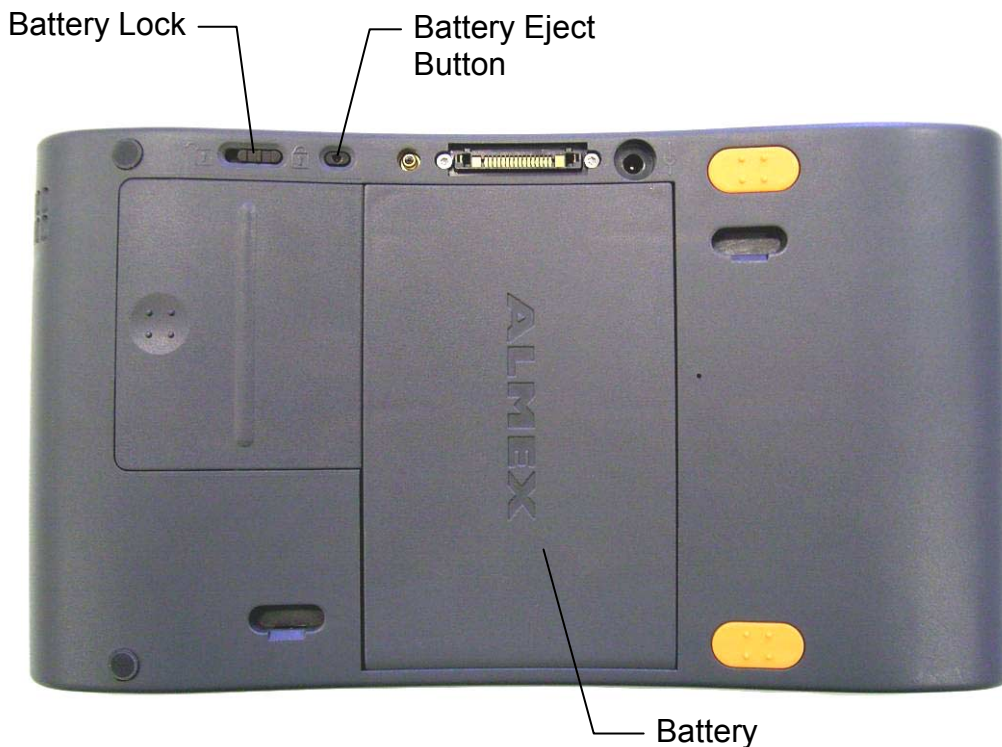

Fig. 23: Rear view of the skeye.pad POS
3. Use the stylus to press the "Battery Eject Button" (see Fig. 23).